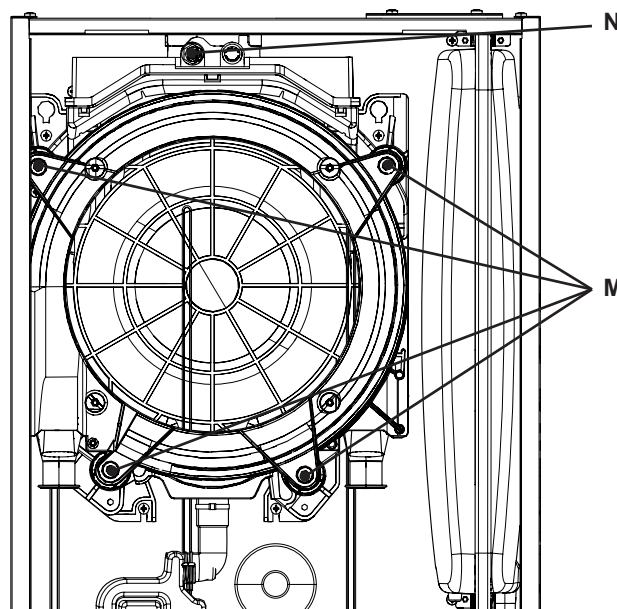

Figure 5.3
- 11 Unscrew the screws "M" and remove the clamps (Figure 5.3).
- 12 Disconnect the connector "N" by pressing the plastic hook placed on the side of the connector (Figure 5.3).